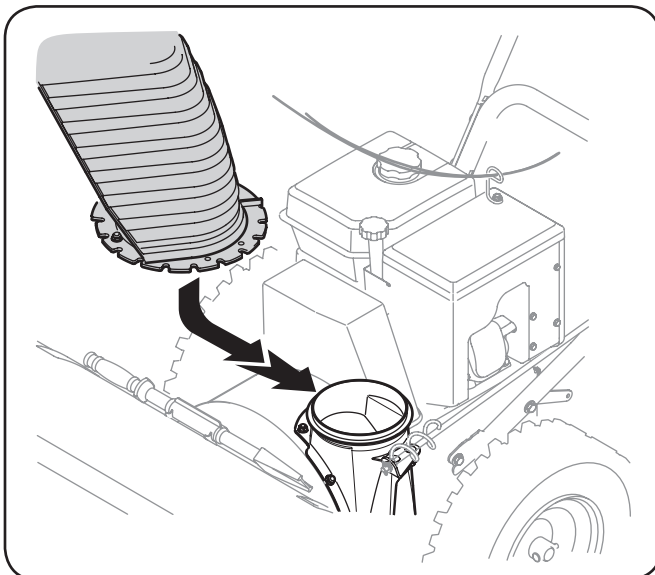

Figure 3-4
2. Place chute assembly onto chute base as shown in Figure 3-4. Make sure that the chute notches engage with the spiral end of chute directional control, and the two flange keepers are beneath the flange on the chute base.